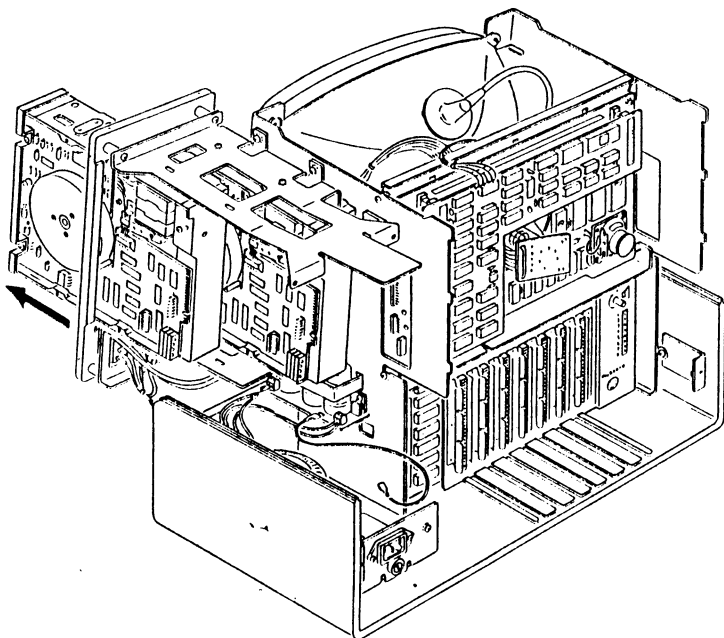

Figure 2.7 Flexible disk drive removal
3. Remove three screws C and slide disk drive out through the front cover (see Figure 2.7).